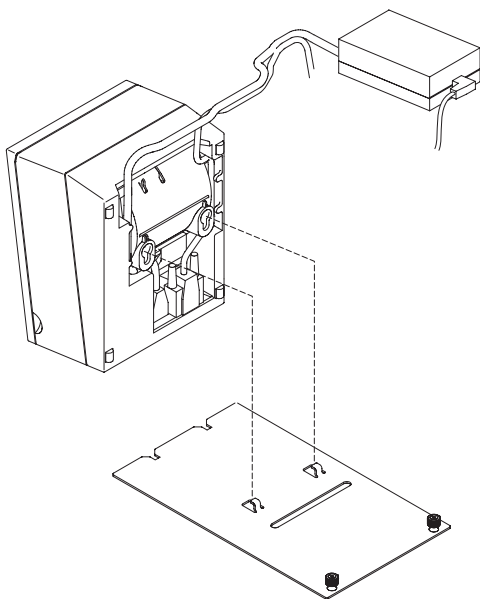

Figure 104. Attaching the 4610 SureMark printer mounting plate for a non-keyboard integration tray
2. Attach the printer mounting plate to the bottom of the printer. The mounting plate slides into the two bottom slots of the printer, as shown in Figure 104.